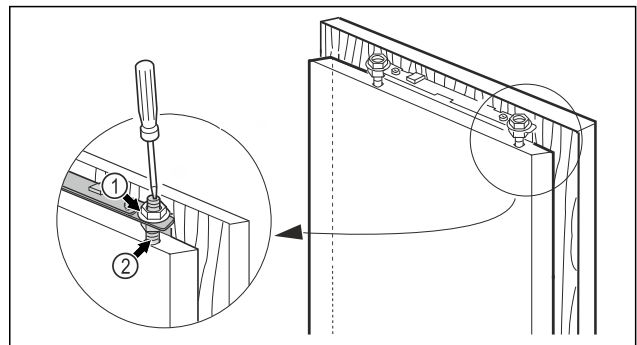

Fig. 26
- ▶ Tighten the lock nuts Fig. 26 (1) with a hexagon wrench 13, holding the adjustment bolt Fig. 26 (2) with a screwdriver.